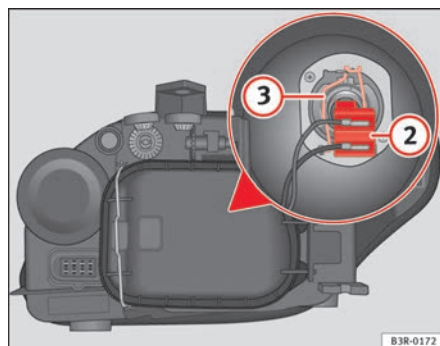

Fig. 194 Dipped head-
- Pull the connector ⇒ fig. 194 ② from the bulb.
- Unclip the retainer spring ⇒ fig. 194 ③ pressing inwards to the right.